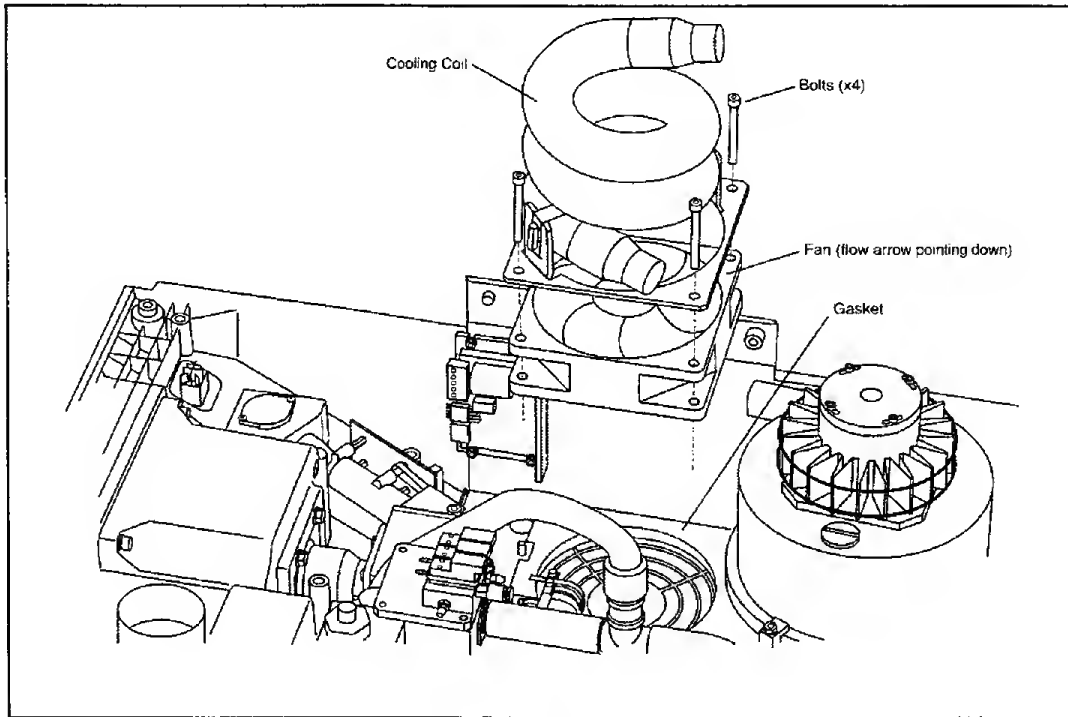

Figure 7-32: Cooling Coil and Fan
11. Remove four bolts holding the Cooling Fan then remove the Cooling Coil Assembly and the Fan (see Figure 7-32).
1. Place the fan on the gasket noting the orientation of the wires. **Note: The fan flow direction arrow must point down and the fan cable should be positioned nearest to the Blower Controller PCBA . Note: Make sure no wires are pinched under the fan (see Figure 7-32).**
2. Place the Cooling Coil Assembly on the fan noting the orientation of the Cooling Coil inlet, then fasten with four bolts (see Figure 7-32). Torque until firm. Do not over-tighten.